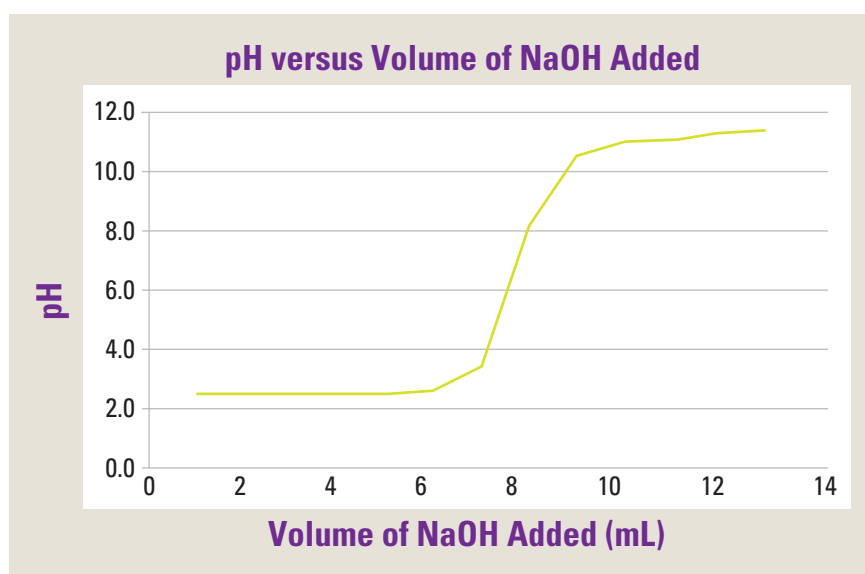

Figure 1. Acid-base titration curve
4. Draw a molecular and particulate view of what is happening in the steep part of a general acid-base titration curve (such as Figure 1).